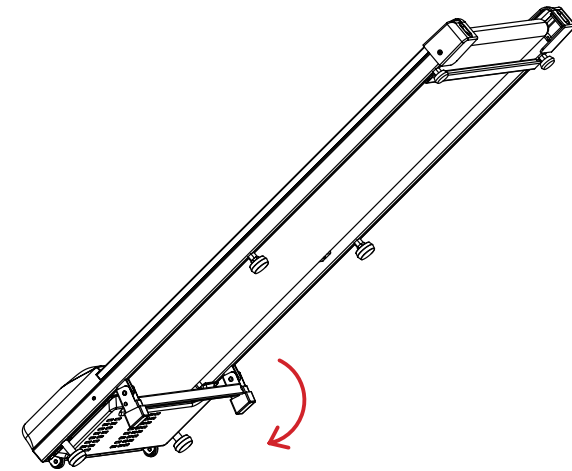

Figure 1
3. Incline adjustment: Lift the treadmill from the rear end and kick the incline adjustment bracket in the direction of the arrow in Figure 1, so that the treadmill can reach a higher incline, then rotate the middle foot pad downward until it is supported on the ground and maintain balance, as shown in Figure 2.